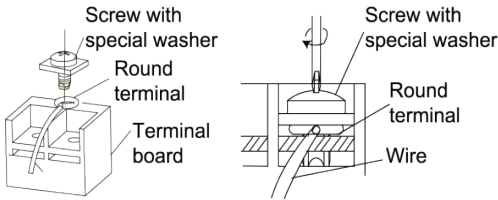

Fig. 27
- 4). Position the round terminal wire, and replace and tighten the terminal screw with a screwdriver.(Fig. 27)